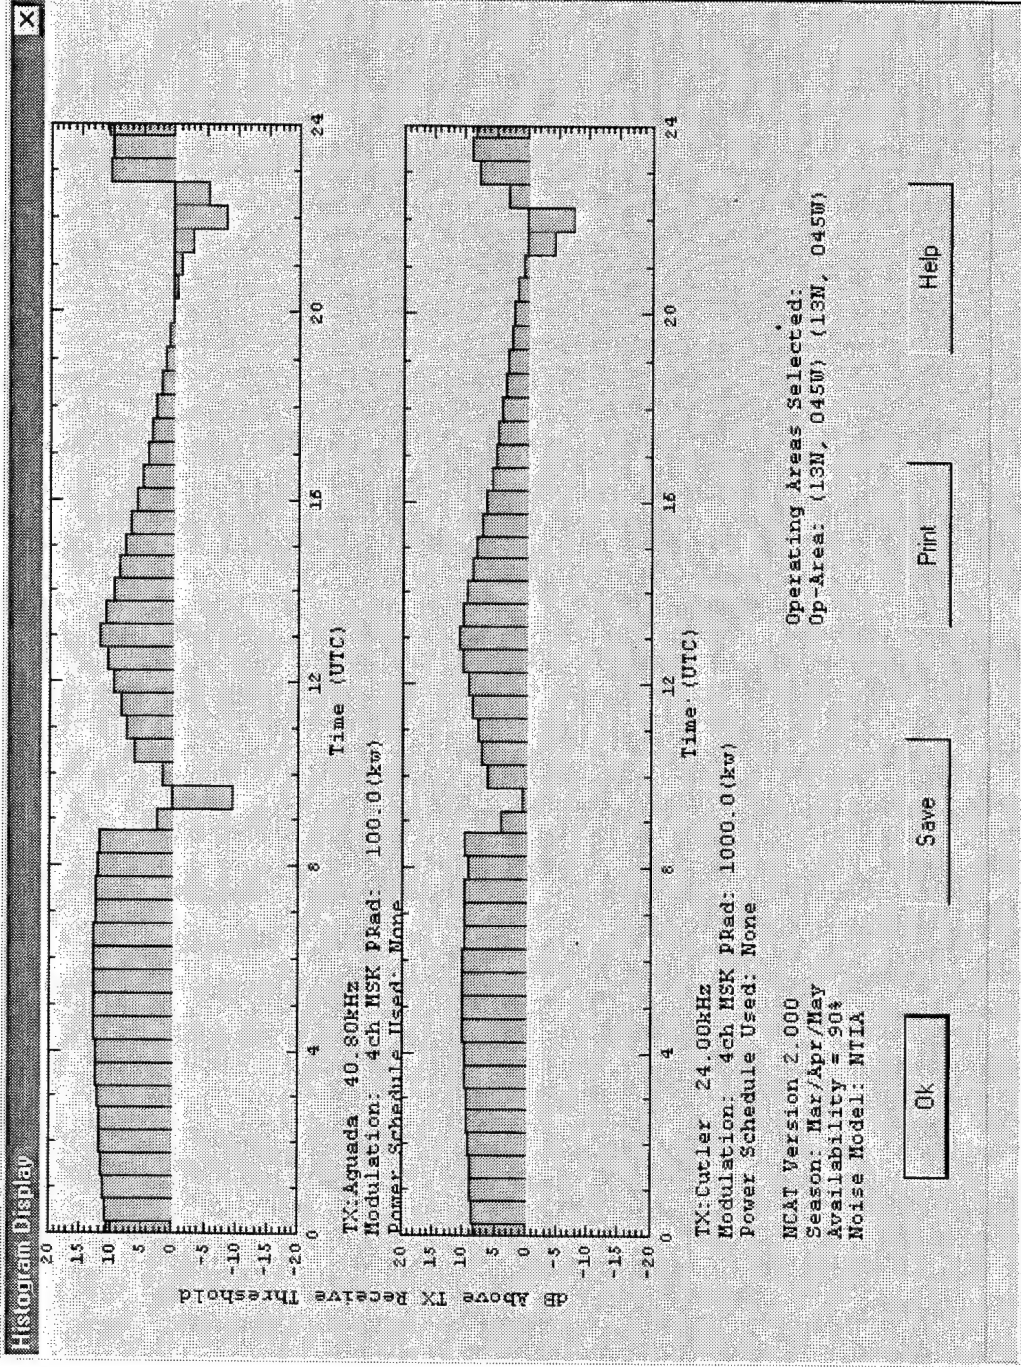

Figure 17. Example of an SNR histogram.
- A plot of the minimum SNR of the combined selected areas for each of the selected transmitter(s). To perform an SNR analysis, select Run Scenario -> Show SNR.... Figure 17 shows an example of the resulting hard copy.